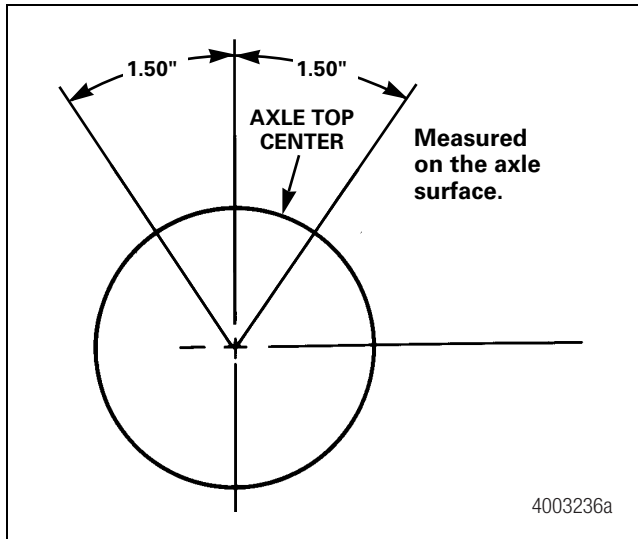

Figure 7.9
- Welding is not allowed within 1.50-inches (38.1 mm) of the top-center of the axle. Figure 7.9.